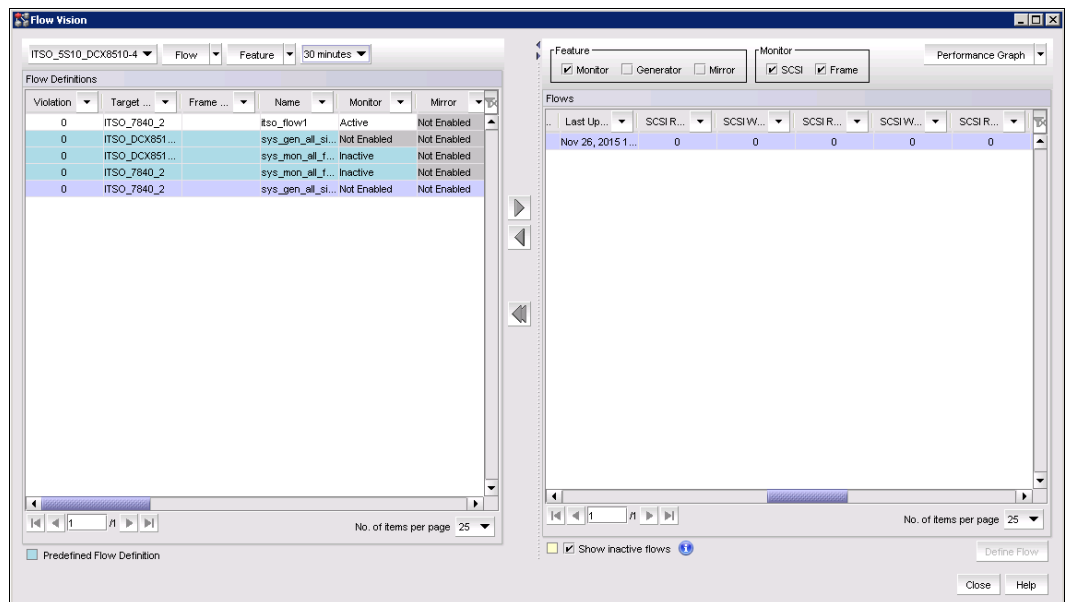

Figure 12-13 Flow Vision monitor panel
1. Select the device on which a defined flow has been configured and select **Monitor** → **Fabric Vision** → **Flow Monitor**. The Flow Vision window is displayed pre-populated with a list of all defined flows in the **Flow Definitions** table (see Figure 12-13).